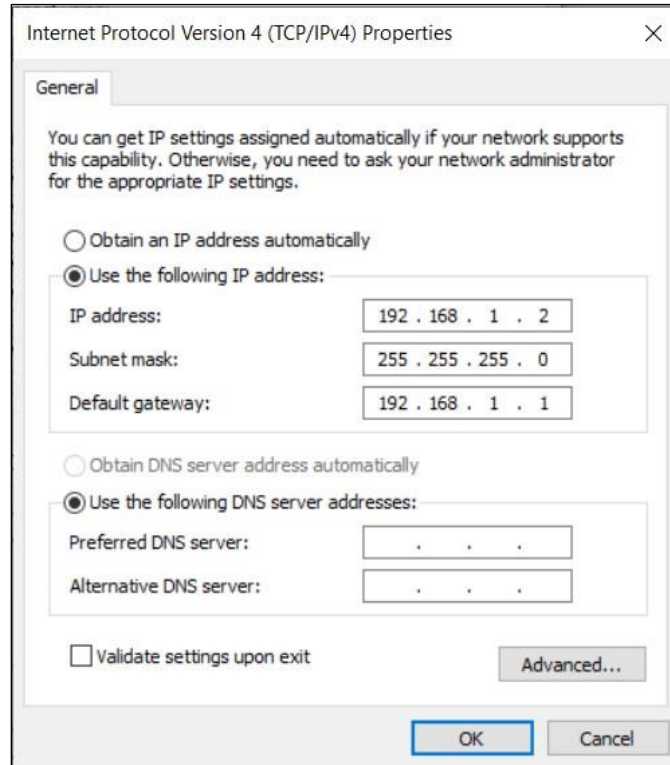

Figure D.5. Configure the Settings
5. Configure the IP address, subnet mask, and default gateway settings as shown in Figure D.5. Click **OK**.